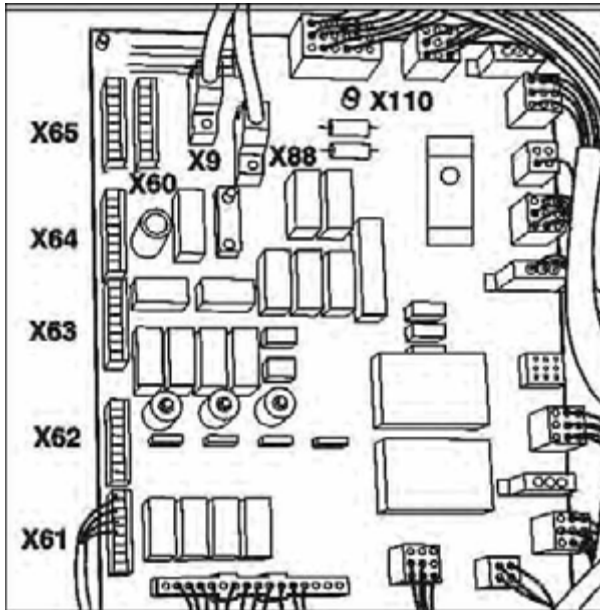

Fig. 52: Power cabinet connections
- At the customer's request or if required by country-specific regulations (e.g. DHHS), the following monitoring devices and displays can be connected in the power cabinet to D160.X61 through X64 (Fig. 52 / p. 46):